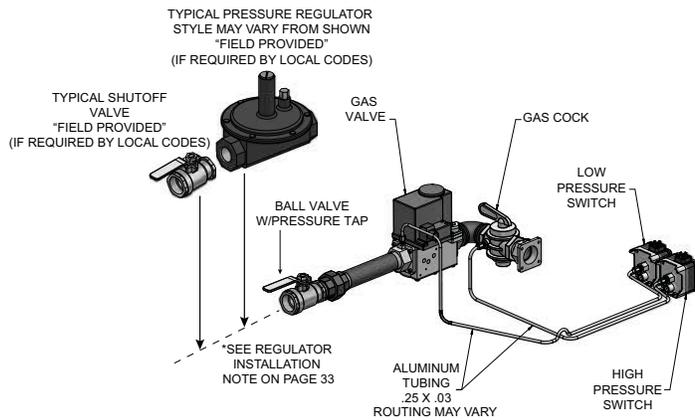

Figure 3-3A_VF 500 - 1000 High & Low Gas Pressure Switches
- Figures 3-3A and 3-3B on page 32 show piping connections for high and low gas pressure switches for respective VF Series models.